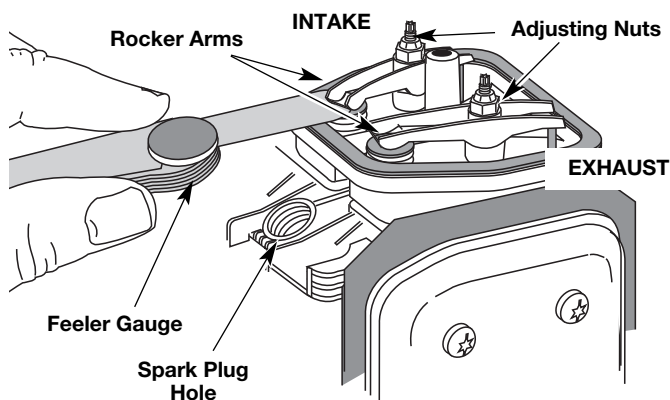

Fig. 37
- The piston is at the top of its travel while looking in the spark plug hole (Fig. 37)
12. Slide the feeler gauge between the rocker arm and the valve return spring. Measure the clearance between the valve stem and rocker arm (Fig. 37 & 38). Measure both the intake and exhaust valves.
The recommended clearance for both intake and exhaust is .003 – .006 in. (.076 – 0.152 mm). Use a standard automotive .005 in. (0.127 mm) feeler gauge. The feeler gauge should slide between the rocker arm and valve stem with a slight amount of resistance, without binding. See Figures 37 and 38.